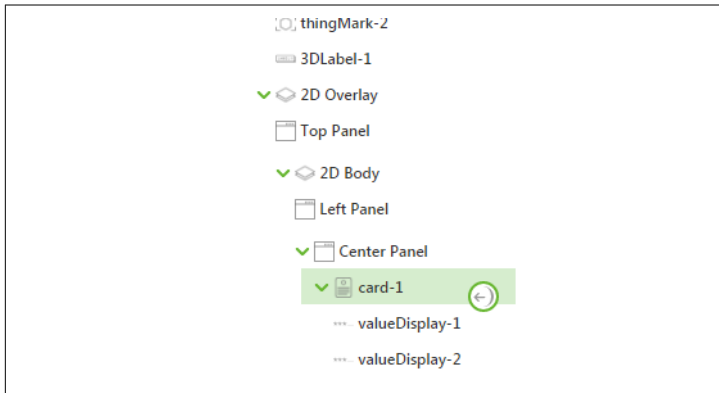

Figure 3-20. Dragging and dropping the Pressed binding icon onto card-1 in the project tree
15. In the PROPERTIES pane, drag and drop the binding icon next to Pressed onto card-1 in the project tree (Figure 3-20).